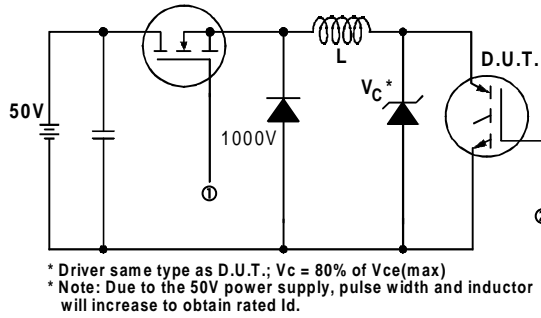

Fig. 13a - Clamped Inductive Load Test Circuit
- ② $V_{CC} = 80\%(V_{CES})$, $V_{GE} = 20V$, $L = 10\mu H$, $R_G = 50\Omega$, (See fig. 13a)
- ③ Repetitive rating; pulse width limited by maximum junction temperature.
- ④ Pulse width $\leq 80\mu s$; duty factor $\leq 0.1\%$.
- ⑤ Pulse width $5.0\mu s$, single shot.